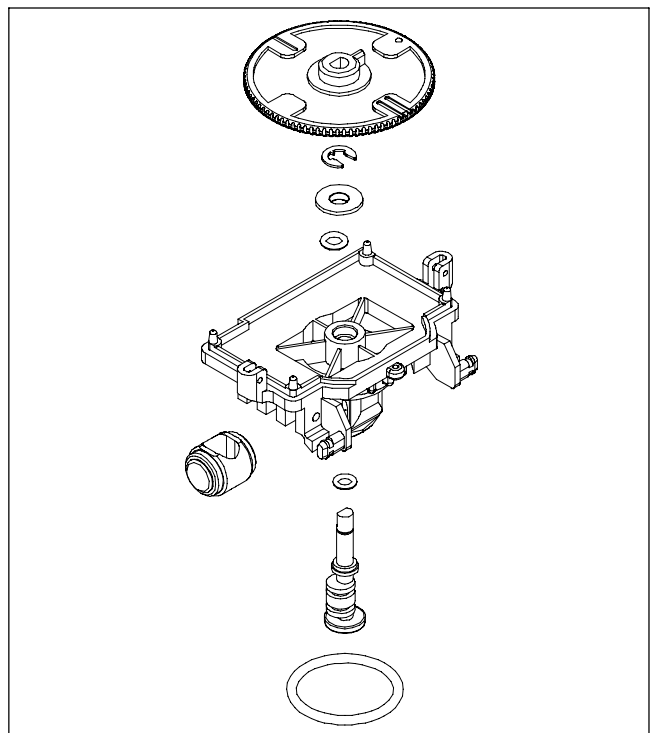

Fig. 27
- 7 Refer to the exploded view in Fig. 27 to remove the internal parts of the three way diverter valve.